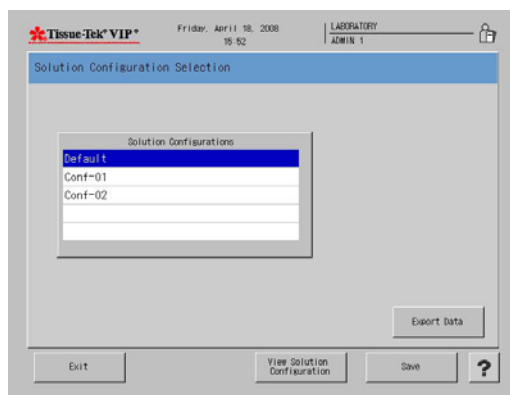

Figure 3-EEEE
- The Solution Configuration Selection screen displays (Figure 3-EEEE).